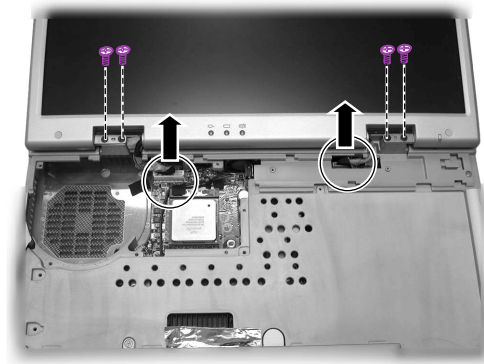

Figure 2-17 Remove cables and screws to separate LCD
6. Disconnect the LCD cables from the system board, and remove four screws of the hinges. Now you can separate the LCD assembly from the base unit. (Figure 2-17)